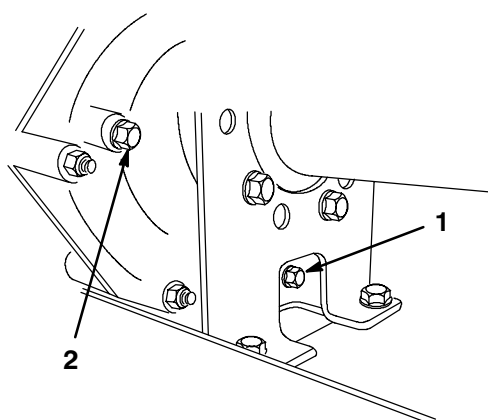
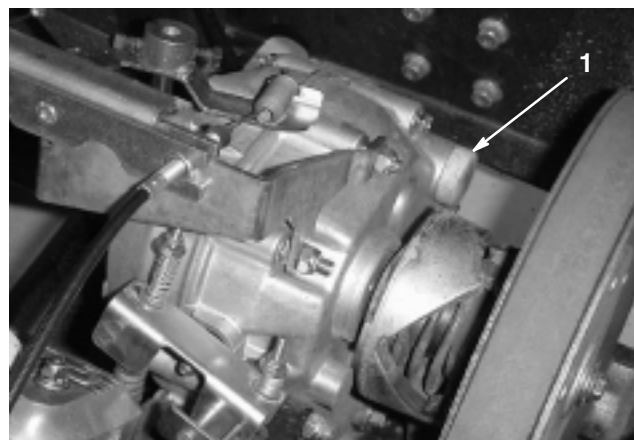

Figure 30
Figure 31
2. Remove drain plug from right side of reservoir (Fig. 30) and let fluid flow into drain pan. Reinstall and tighten plug when fluid stops draining.
3. Fill the reservoir (Fig. 31) with approximately 1-1/2 qt. (1.4 liters) of 10W30 motor oil or until the oil level is at the bottom of the level indicator hole (Fig. 30).